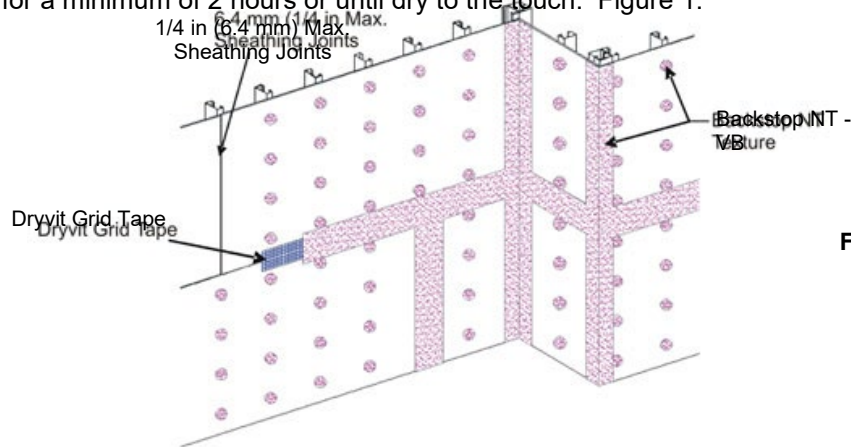

Figure 1
- Apply Dryvit Grid Tape as described in Section IV.E.1 above. Mix the material, as described in Section I and using a stainless steel trowel or spatula, apply a layer of Backstop NT-VB over the grid tape. Spotting of fasteners is not necessary when applying Backstop NT-VB using a trowel. Allow to dry for a minimum of 2 hours or until dry to the touch. Figure 1.